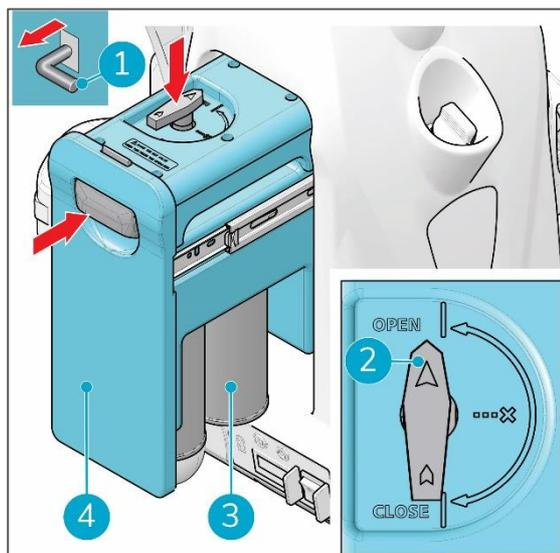

Figure 23
- pull the safety pin at the back of the i-gum® (Figure 23, pos 1);
- pull the gas cartridge holder (Figure 23, pos 4) at the same time.
4. Turn off the gas valve (Figure 23, pos 2).
- close the gas cartridge holder (Figure 23, pos 4) at the same time.